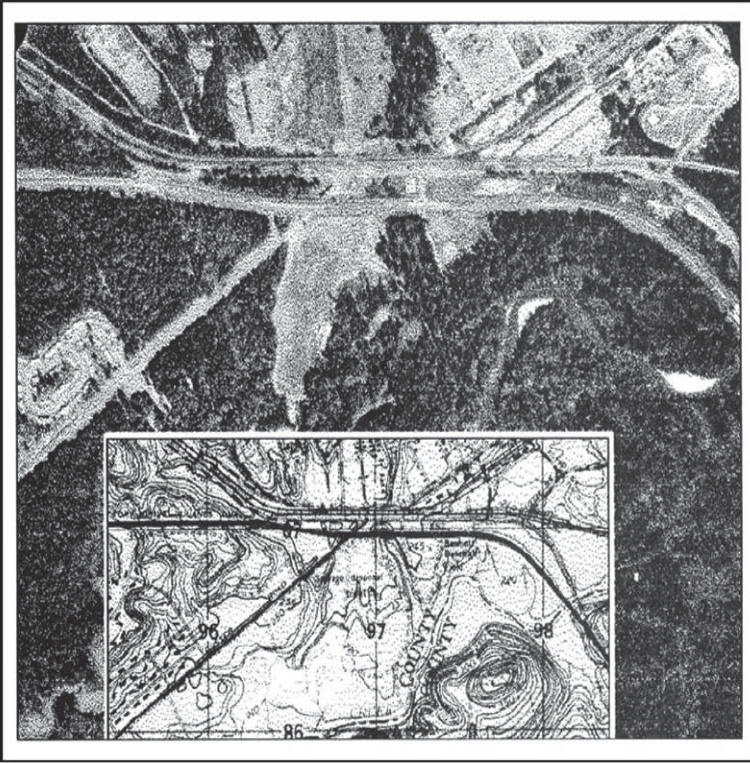

Figure 071-COM-1012-1. Terrain Association.
2. Match terrain features appearing on your map with terrain features physically observable on the ground (Figure 071-COM-1012-1).